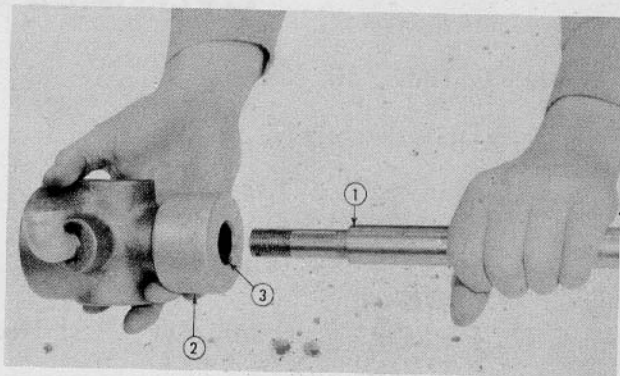

Fig. 19
Step 12—Install piston shaft (1—Fig. 19) in packing nut and yoke assembly, (2). Be careful not to damage wiper (3).